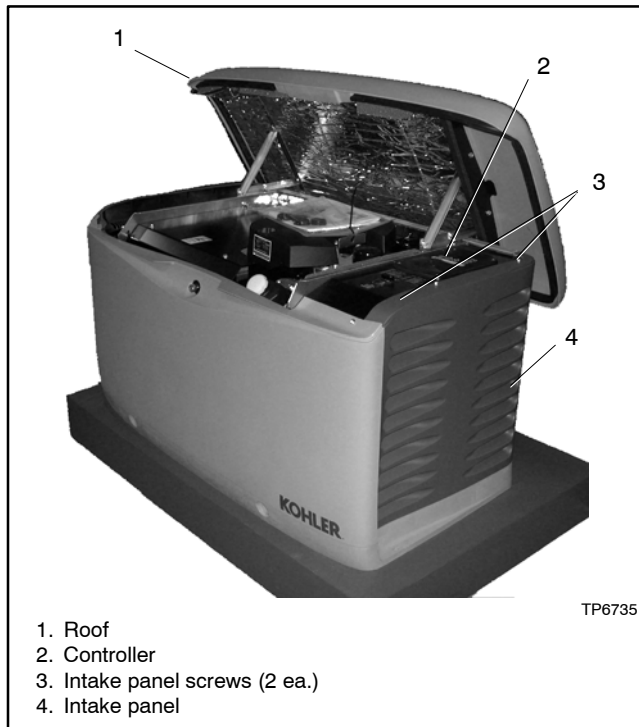

Figure 2 Enclosure Roof and Air Intake Panel
1. Open the enclosure roof. See Figure 2.
4. Remove two (2) screws on the intake panel and remove the panel. See Figure 2.